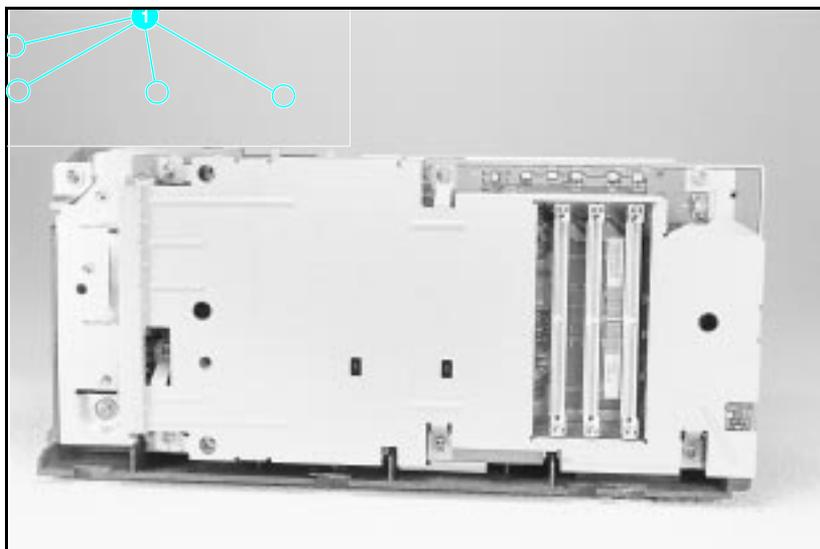
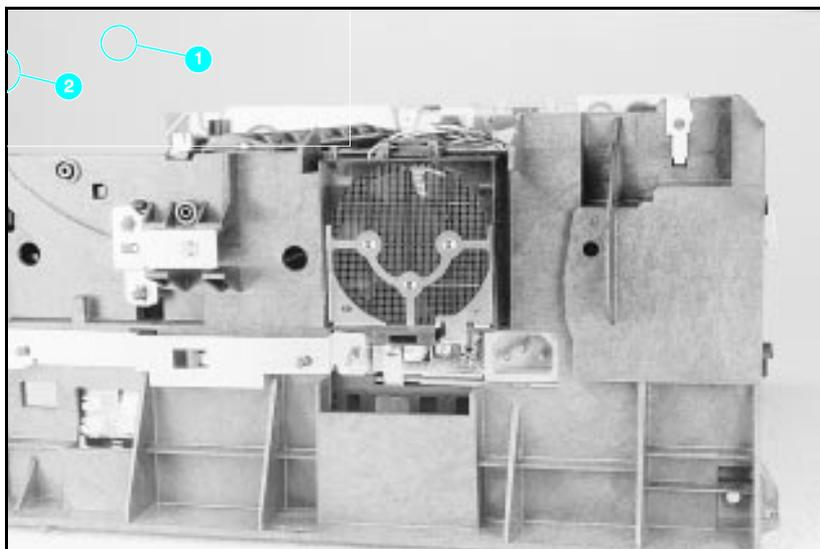

Figure 25 Removing the formatter screws.
Figure 28 Grounding Spring screw location.
- 2.** Remove the (7) screws shown in Figure 25.
2. On the right side, remove the machine screw and washer (Figure 28) holding the grounding spring in place. (Callout 1 in Figure 25).
3. Disconnect the two cables to the tray 1 assembly (callout 2 in Figure 25).